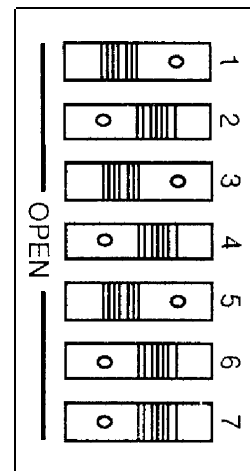

Figure 3. Typical I/O Backplane DIP Switch
2. Set the I/O CCM address using the backplane DIP switches. (Reference Figure 3, Table 6)
Before installing the module, set the Dual-In-Line Package (DIP) switches adjacent to the card slot on the rack backplane to establish which group of eight consecutive input points in the CPU I/O tables will be used by the module being installed. Figure 3 illustrates a typical I/O DIP switch set for address 673-680 and Table 6 shows switch settings for all possible module addresses.